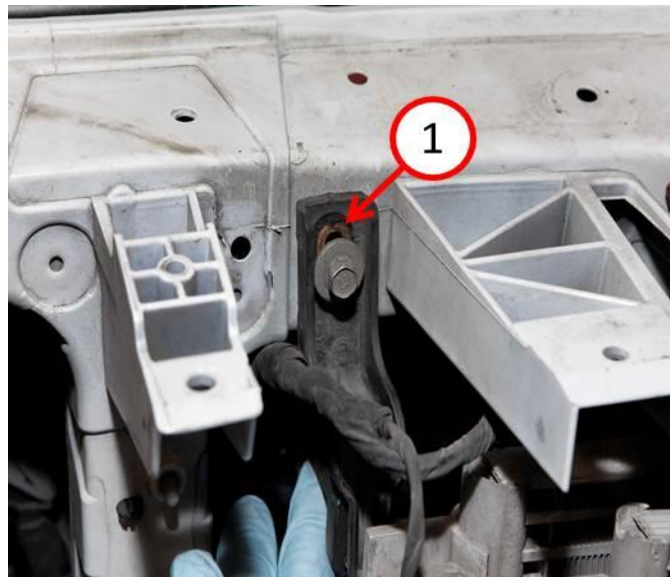

Fig. 9 Upper Radiator Support Bracket
20. Remove the bolts and the upper radiator support bracket (1) (Fig. 9).
39. Install the bolts and the upper radiator support brackets (Fig. 9). Tighten the bolts to 12 N·m (106 in. lbs.).